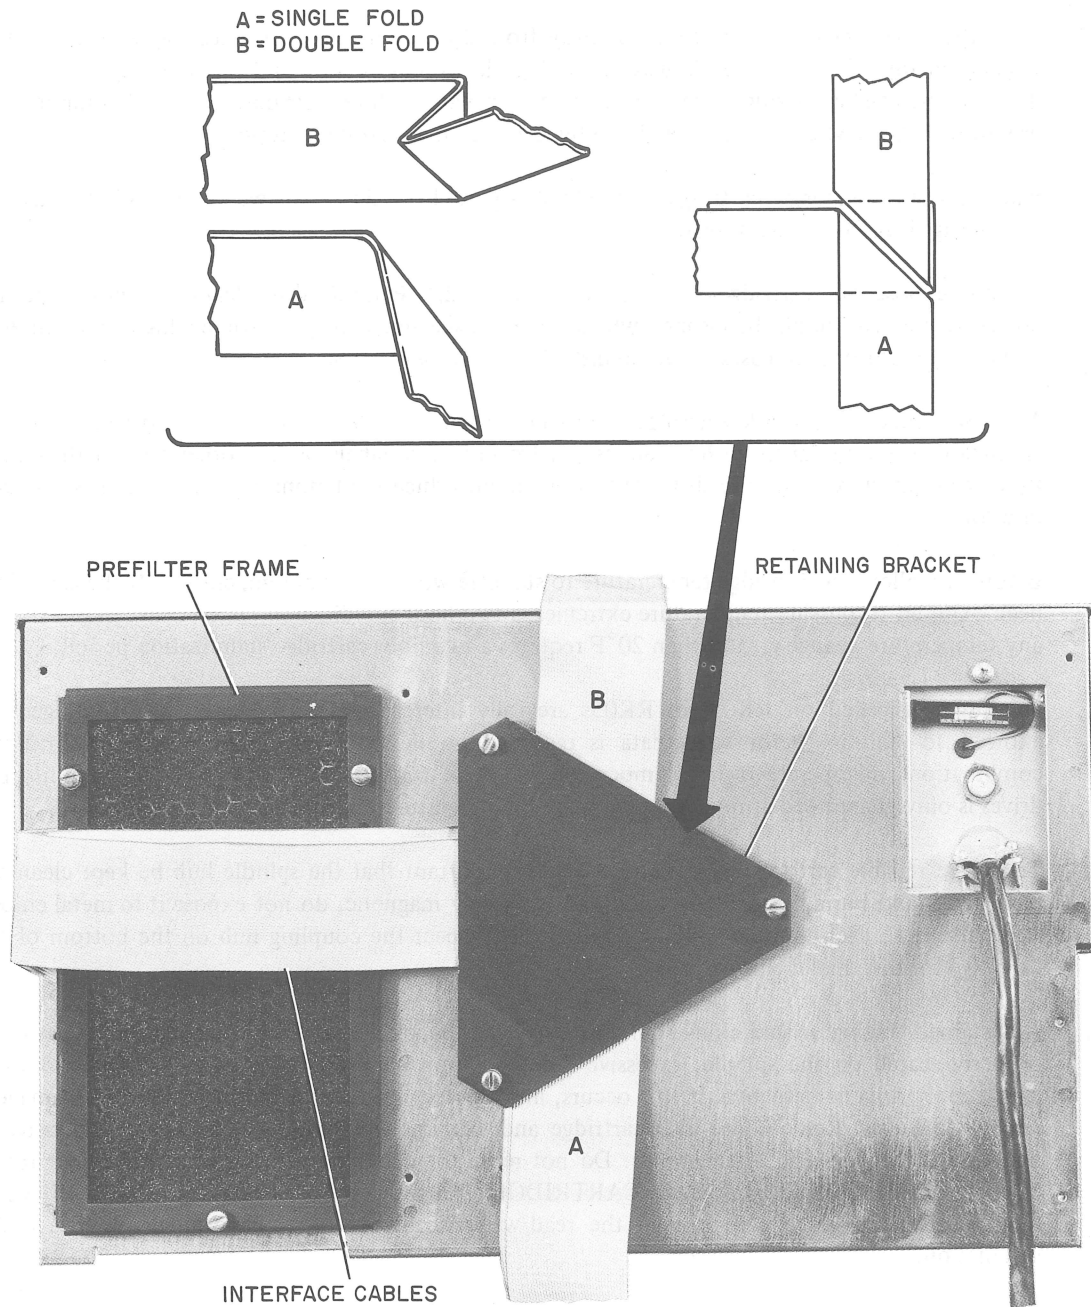

Figure 2-4 RK8/E Interface Cable Installation (Preferred Method)
- b. Route the interface cables through the prefilter opening and reinstall the filter and frame so that the cables fit into the slot on the side of the frame (Figure 2-4).
- c. Route the cables over the prefilter and fold them as indicated in Figure 2-4.